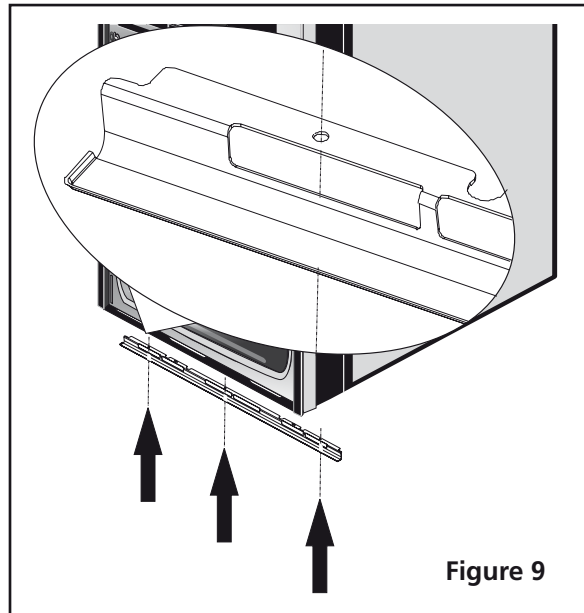

Figure 9
- 8 Install now the bottom trim using the screws supplied with the unit (Figure 9).